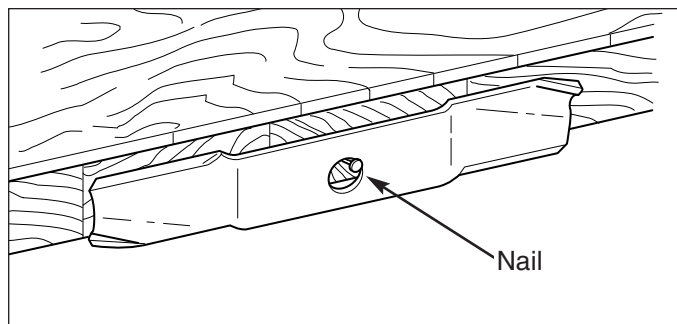

Figure 19. Balancing The Blade
4. Balance the blade as shown in Figure 19. Center the blade's hole on a nail lubricated with a drop of oil. A balanced blade will remain level.